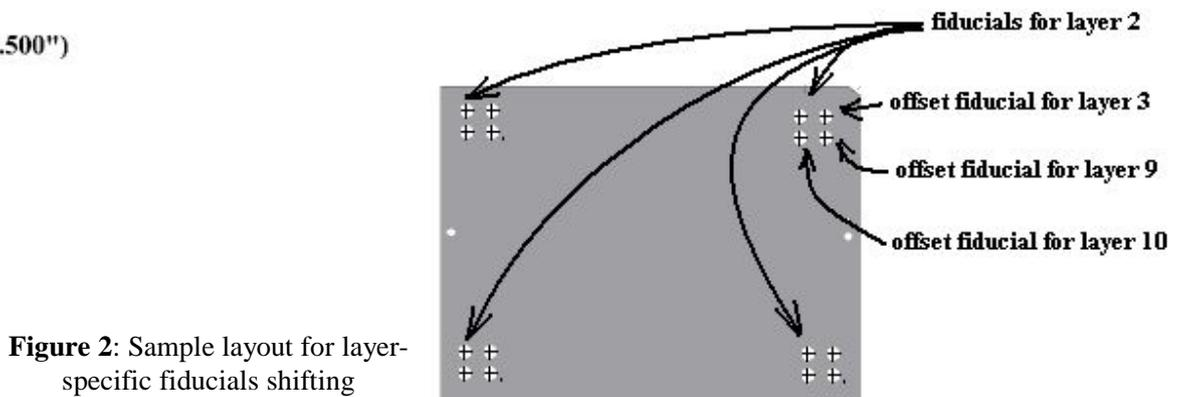

Figure 2: Sample layout for layer-specific fiducials shifting
8. For multi-layer stack-ups and drills, the fiducials should all be shifted from layer to layer, so that no two sets of fiducials are stacked atop each other. Layer-specific fiducials shifting helps us verify both the layer/side of the panel being processed and the layer being aligned to. For example, the fiducials for layer 2 should be in a different location than that of layer 3. If fiducials are stacked, the top fiducial will be lost when exposing the subsequent layer's fiducial. See Figure 2 for an example layout.